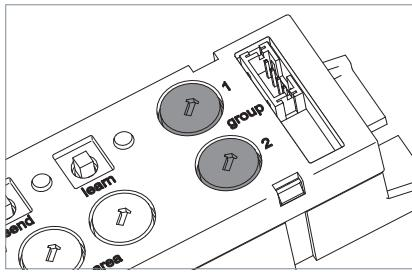

Fig. 9: "group 1" and "group 2" rotary coding switches.
- ▶ If you want to assign the luminaire exactly to one group, both rotary coding switches "group 1" and "group 2" should be set to the same group address, see Fig. 9.